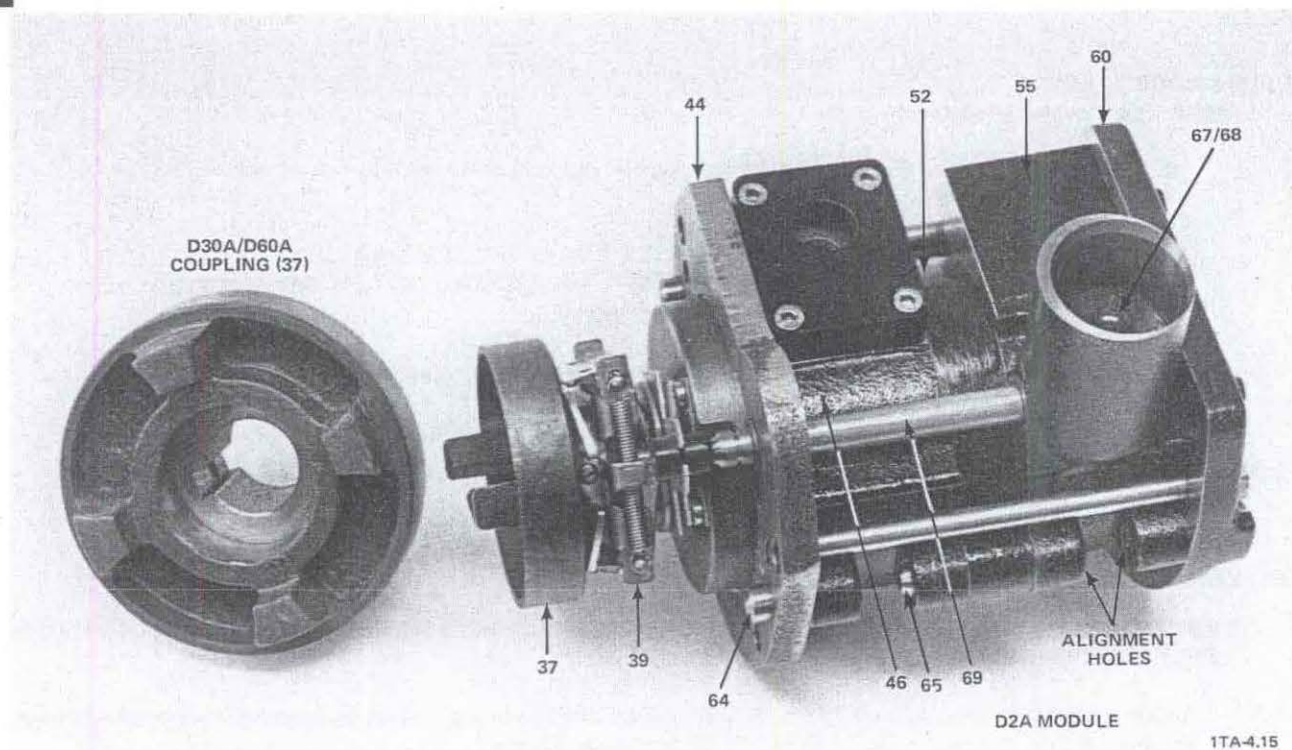

Figure 5-3. Module, Side View (D2A Pump Model Shown)
*The module is the unit made up primarily of the shaft, rotors, vanes, coupling, centrifugal switch, end plates, pump cylinders, and center bearing. Figure 5-3 shows a module.
CAUTION: USE CARE WHEN HANDLING THE MODULE TO AVOID BENDING THE LEVER (41) OR CENTRIFUGAL SWITCH (39) (see Figures 5-3 and 5-4).
- C-1** Using a large pair of long nose pliers, pull the valve disk (67) and attached brass piston (68) out of the intake portion of the high vacuum pump cylinder (55) (see Figures 5-3 and -11).
- C-2 CAUTION:** IF A PULLER IS USED TO REMOVE THE COUPLING (37), BE CAREFUL TO AVOID DAMAGING THE CENTRIFUGAL SWITCH (39).
Using a small screwdriver, loosen the setscrew that secures the coupling (37) to the shaft. Pull the coupling off of the shaft (see Figure 5-3).
- C-5 NOTE:** For use during reassembly, the centrifugal switch end with the split halves faces the coupling (37).
For the D2A, D4A, D8A, and D16A models only, loosen the one or two setscrews that secure the centrifugal switch (39) to the coupling (37) (see Figure 5-3).
- C-14** Pull the air inlet tube (69) from the front end plate (44) or high vacuum stage pump cylinder (55). (See Figures 5-3 and 5-8.)